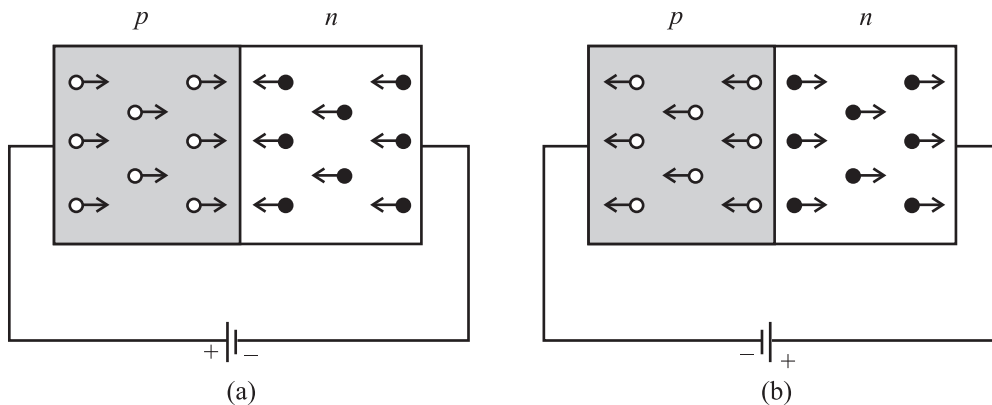

Fig. 28.9 : (a) Forward biased, and (b) reverse biased p - n junction
- Positive terminal of the battery connected to the p -side and negative terminal of the battery connected to the n -side. This is called **forward bias** [Fig. 28.9(a)].
- Positive terminal of the battery connected to the n -side and negative terminal of the battery connected to the p -side. This is called **reverse bias** [Fig. 28.9(b)].